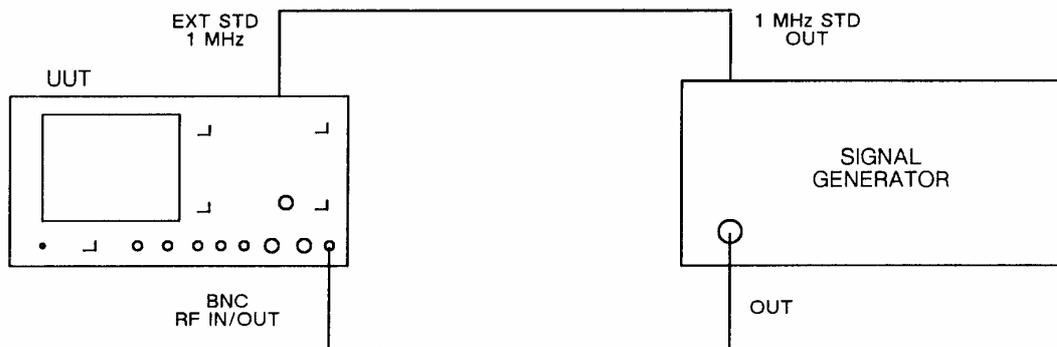

Fig. 5-1-9 Test equipment connections for RF frequency meter accuracy performance checks
- (1) Connect the equipment as shown in Fig. 5-1-9.